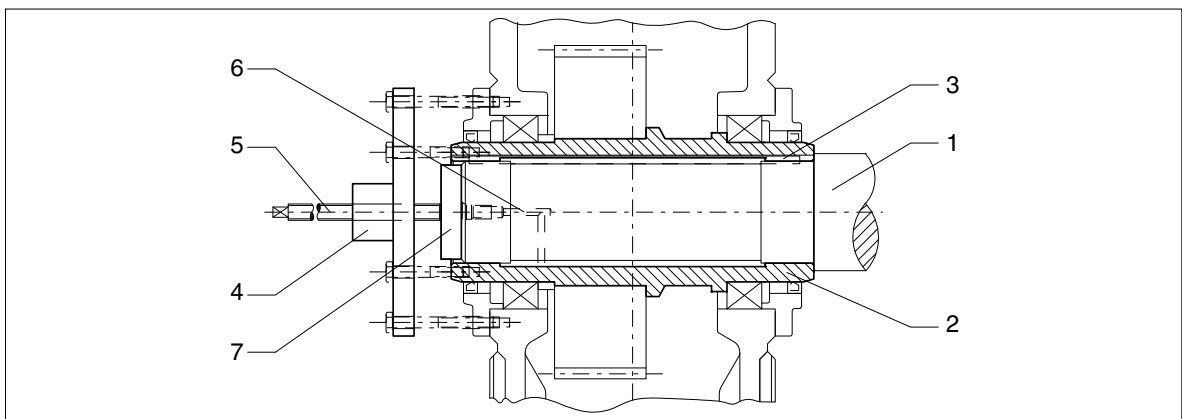

Fig. 43: Hollow shaft with parallel keyway, demounting with hydraulic lifting unit ("Lukas")
- When the rust-releasing agent has taken effect, pull the gear unit off with the device (see figs. 43 and 44).
If the support is provided not only by the hollow shaft, but also by the housing, as shown in fig. 43, the forces used must not exceed the values given in the following table 16.